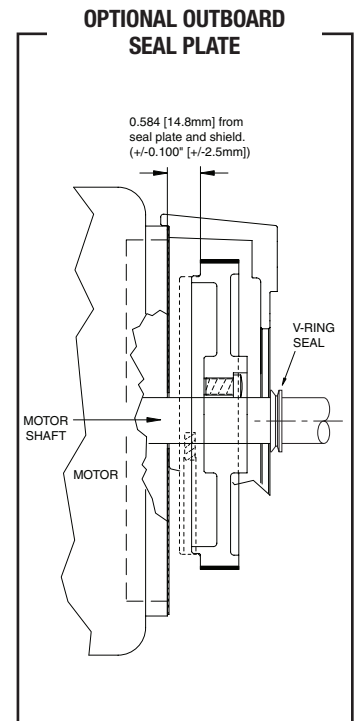

FIGURE 4
1. The through-shaft must project at least 1.5" [38.1mm] from the accessory mounting face. If it is greater than 2" [50.80mm] long, use the outboard through-shaft cover, detailed in Figure 4.
For applications requiring shafts to pass completely through the AV850, Avtron offers an outboard through-shaft seal plate kit with V-ring seal. See Table 4 for part numbers and Figure 4.
3. Mount the AV850 stator housing as shown in Figure 4.
4. Install new through-shaft cover using the (4) #10-24 screws and washers from step 2.
6. Slide the V-ring seal onto the shaft, and ensure that it is compressed against the cover. See installation Figure 4.